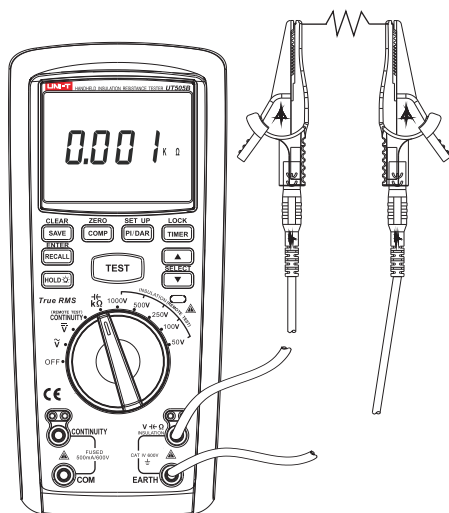

Figure 7
4.1 Measuring of Resistance (See Figure 7)
- ① Insert the red probe into "V" jack (red jack), and black one into "EARTH" jack (black jack).
- ② Rotate dial switch to " $K\Omega/\text{---}$ " tap position and connect the probe to two ends of tested resistance in parallel.
- ③ Read current measuring value of resistance from the display.
- ④ In measuring, if intending to save measured resistance, press the key of "SAVE/CLEAR" for saving.